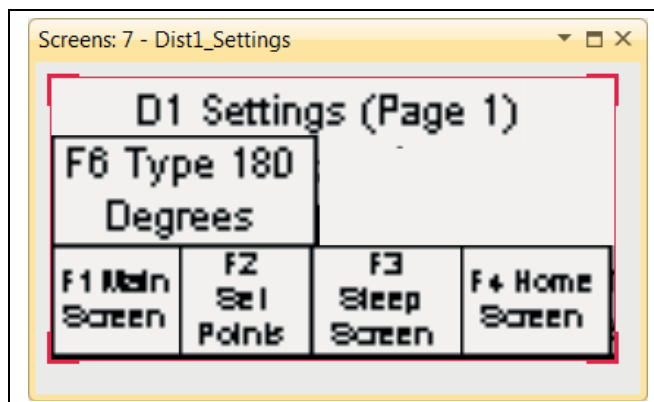

Figure 5E
5. After pressing **F3**, the following screen will appear as in Figure 5E. If the distributor is a flat back, press **F6** to show 180°. If the distributor is full round, press **F6** to show 360°. Next press **F2** to enter the number of spout positions.